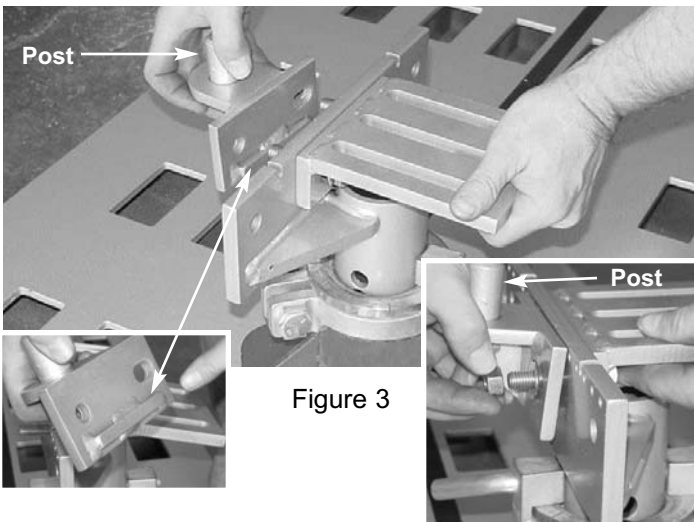

Figure 3
- 3) Position support plate against front of anchoring stand making sure anchoring bolts project through its mounting holes. (See Figure 3.) Secure the assembly using appropriate nuts and washers. (See Figure 3 Inset at right.)
NOTE: The front support plates are thicker at the bottom than the top. (See Figure 3 Inset at left.) This design positions the support post at a slight outward angle allowing it to mate with the lift tab hole at front of center section.